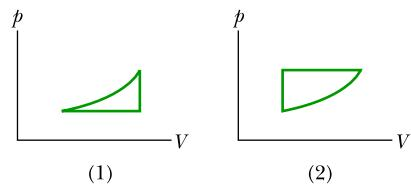

Figure 18.4 Questions 7 and 8.
- 7** Figure 18.4 shows two closed cycles on p - V diagrams for a gas. The three parts of cycle 1 are of the same length and shape as those of cycle 2. For each cycle, should the cycle be traversed clockwise or counter-clockwise if (a) the net work W done by the gas is to be positive and (b) the net energy transferred by the gas as heat Q is to be positive?
- 8** For which cycle in Fig. 18.4, traversed clockwise, is (a) W greater and (b) Q greater?